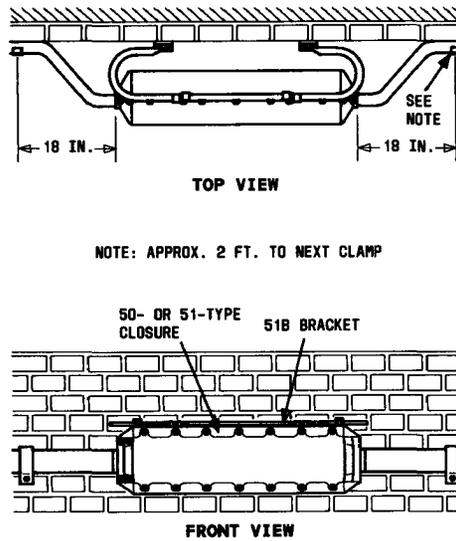

Fig. 10—Typical Bracket and 50- or 51-Type Closure Mounting
4.08 Figure 10 illustrates the mounting of a 50- or 51-type closure.